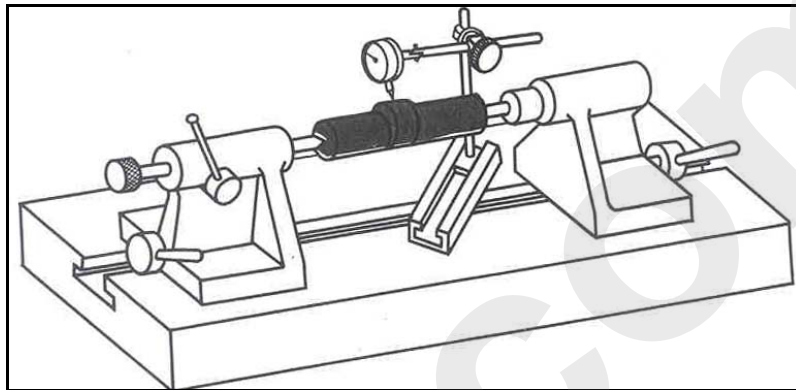

Figure 34 – Checking the eccentricity of the workpiece.
4. If necessary, check the eccentricity of the workpiece, using a comparator and by rotating the piece slowly (by hand) after it is fixed between the tips (see Figure 34).